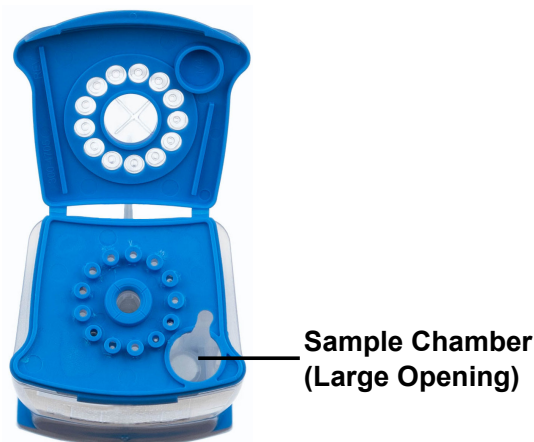

Figure 2. Xpert HIV-1 VL Cartridge (Top View)
- **Option 1:** If using the transfer pipette included in the kit (Figure 1), fill to just below the bulb but above the line to transfer at least 1 mL plasma from the collection tube into the sample chamber of the test cartridge (Figure 2). Do **NOT** pour the specimen into the chamber!
- **Option 2:** If using an automatic pipette, transfer at least 1 mL of plasma into the sample chamber of the test cartridge (Figure 2). Do **NOT** pour the specimen into the chamber!